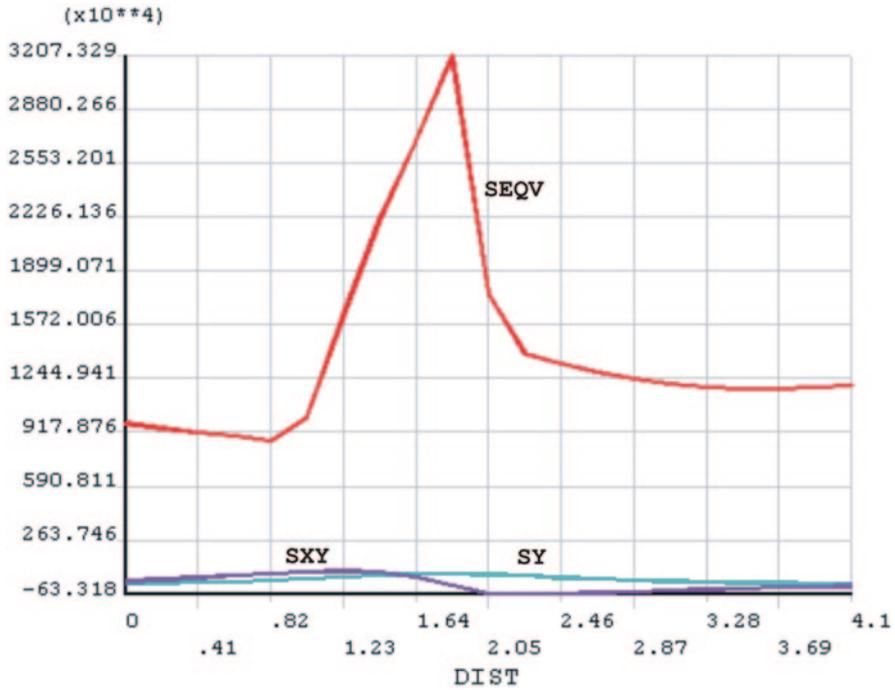

Fig. 8.67 Line plots of σ_{yy} , σ_{xy} , and σ_{eqv} along path V2
- Similar plots can be obtained for stresses along path V2. For this purpose, the user needs to activate path V2, followed by the mapping of quantities. Figure 8.67 shows the variation of σ_{yy} , σ_{xy} , and σ_{eqv} along the path.